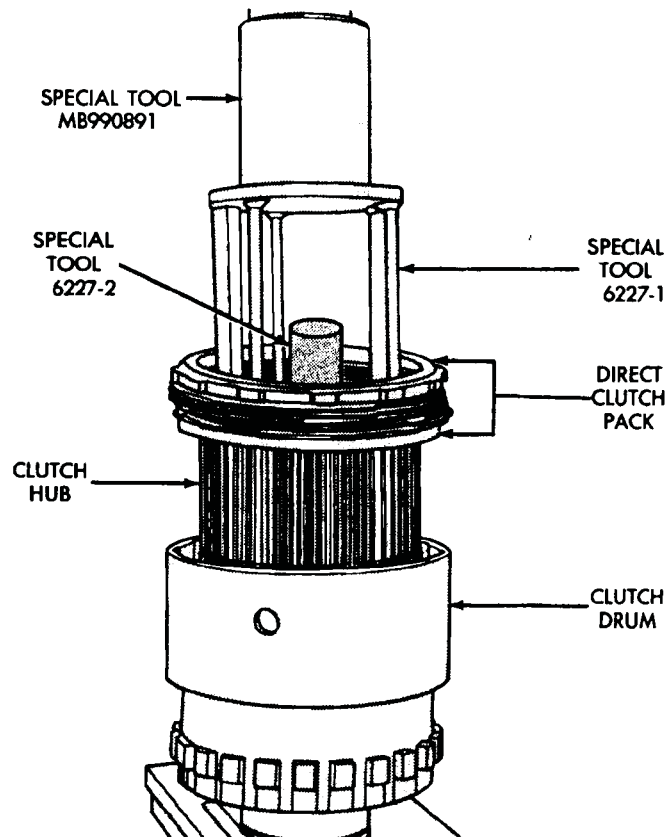

Fig. 60 Mounting Geartrain Assembly In Shop Press
(23) Mount geartrain assembly in shop press (Fig. 60)
(24) Position Compressor Tool 6227-2 on clutch hub (Fig. 60).
(25) Slide direct clutch pack upwards on hub (Fig. 60). Slide pack upward and set it partially on edge of hub and compressor tool as shown in Figure 60.